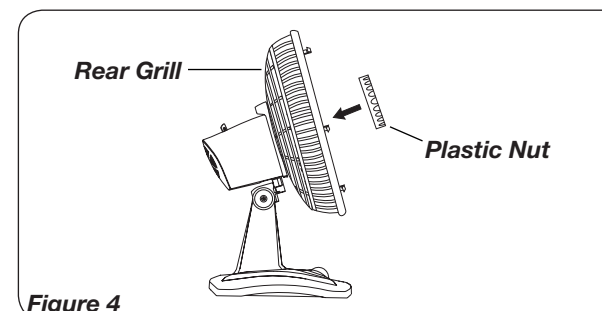

Figure 4
4. Fully seat *Rear Grill* and secure with *Plastic Nut* turning **CLOCKWISE**. (Figure 4)